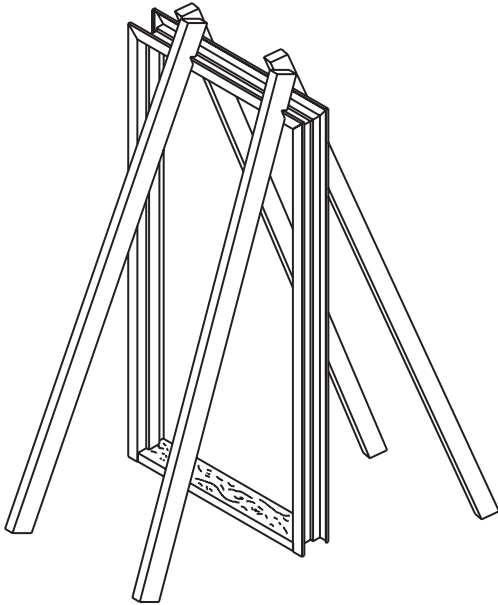

Figure 4 – Bracing the frame
3.3 Bracing the frame (see Figure 4)